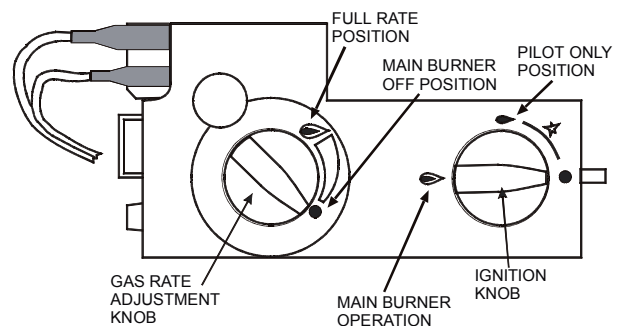

Figure 7 - Gas Valve
5. Turn the IGNITION KNOB anticlockwise to the Main Burner Operation position as shown in Figure 7.